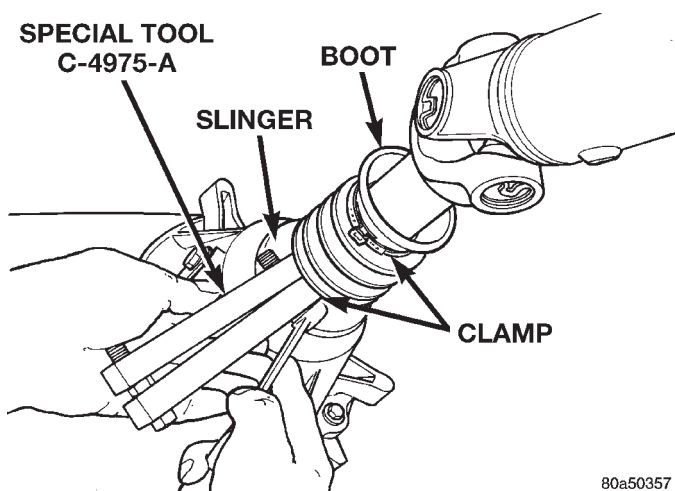

Fig. 90 Slinger Boot Installation
- (11) Install boot on output shaft slinger and crimp retaining clamp with tool C-4975-A (Fig. 90).